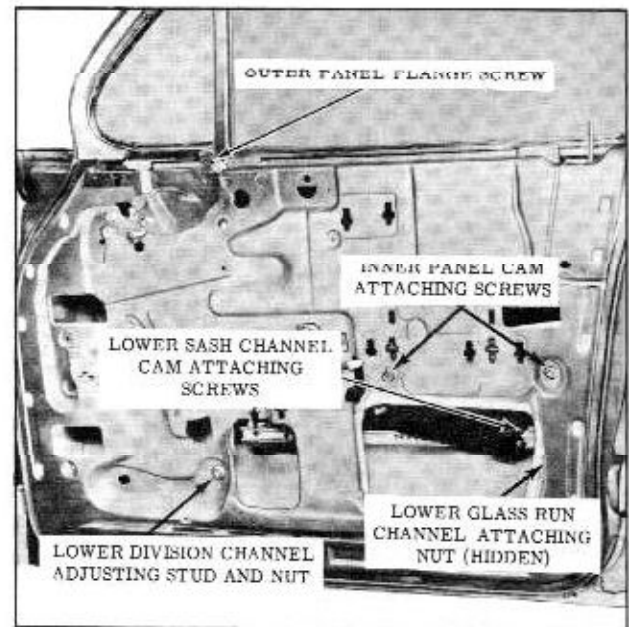

Fig. 17-34 Front Door Glass (Sedans)
3. Lower door window. Remove ventilator to door outer panel return flange attaching screw. (Fig. 17-34)
4. Remove ventilator division channel lower adjusting stud and nut. (Fig. 17-34)
4. Remove screws securing window lower sash channel cam to window assembly and carefully disengage cam from window lower sash channel. (Fig. 17-34)
1. To correct a condition where glass is "cocked" in glass run channels, loosen inner panel cam attaching screws, adjust cam up or down as required and tighten screws. (Fig. 17-34)
3. To adjust lower portion of window glass run channel in or out for proper alignment with door window, raise door window. From inside door, loosen glass run channel lower attaching nut or screw, adjust channel as required and tighten nut or screw. (Fig. 17-34)
3. Through inner panel access hole loosen nut or screw securing lower end of glass run channel. (Fig. 17-34)